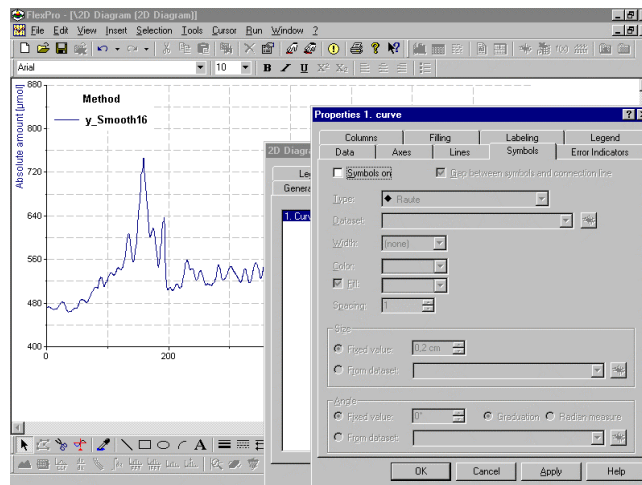

Figure 4.22: The diagram display after switching off the symbols
There are commands in the *Symbols* tab which come in helpful to carry out other individual choices concerning the curves. If the check box *Symbols on* is activated, most of the following commands are available. Make sure that apart from the *Properties 1. Curve* parts of the diagram window are visible on screen, so that the effects of the changes in the dialog box can be checked directly in the diagram after clicking *Apply*. We try this by deactivating *Symbols on* and clicking the *Apply* button. We get the smoothed curve in form of the familiar line graph (Fig. 4.22).
*Note:* We can reach the *Properties 1. Curve* dialog box and its *Symbol* tab far quicker – with the dialog box being closed - via double-clicking on the curve symbols in the diagram window. This action highlights the symbols of the curve. This procedure has the advantage that only one dialog box is open, which can be positioned at any place on the work area. The second, superior but inactive and therefore immovable properties dialog box for *Smooth16\_Diagram* is not opened during this procedure and thus does not hinder the current task (see two Fig. 4.22 and 4.23 above).